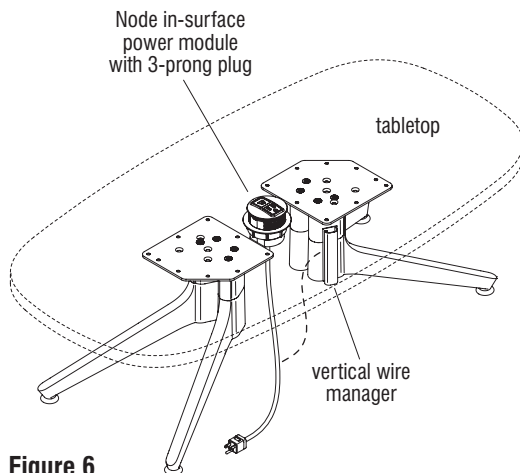

Figure 6
19. Insert the power module cord into the wire manager (Figure 6).